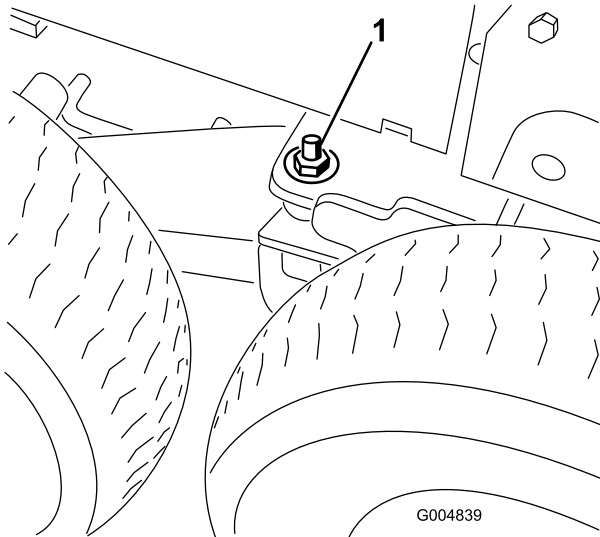

Figure 28
17. Remove the flat washer (1/2 inch) and nut (1/2 inch) installed on the stud on the bogie pivot (Figure 28).
23. Lower the floor jack until the front wheels support the frame. Install the flat washers (1/2 inch) and locknuts on the bogie pivot stud (Figure 28) and torque to 75 ft-lb (102 N·m).